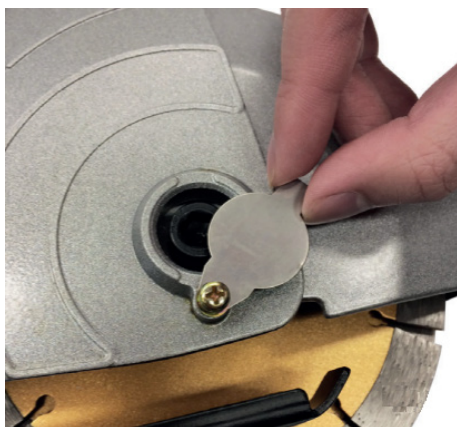

Fig. 8
- Slide the flap to the side, Fig. 8.